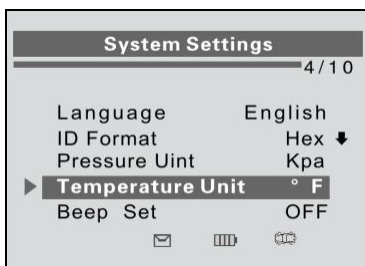

Figure 2.8
- 1) From **System Settings** screen, use the **UP/DOWN SCROLL** button to select **Temperature Unit**, and press the **Y** button. (Figure 2.8)